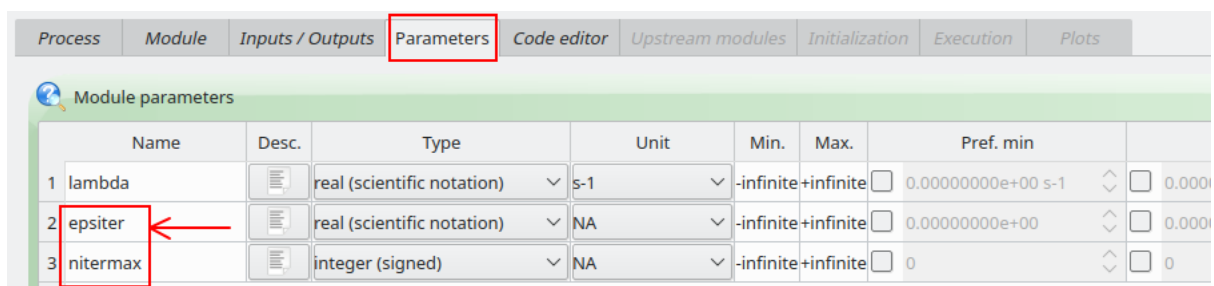

Figure 3: Definition of parameters *epsiter* and *nitermax* for *first_order_degradation* module (*Parameters* tab of *vsoil-modules* application)
It is the responsibility of the module developer to define and code in the compute section of the module (see below), the algorithm controlling the convergence of the iterations. So, the module should have a parameter defining the convergence criterion (parameter *epsiter* of module *first_order_degradation*, see figure 3).
number of iterations (parameter *nitermax* of module *first_order_degradation*, see figure 3): this offers the possibility to build a model composed of modules having their own (and potentially different) maximum number of iterations.
- If the value of *nitermax* (maximum number of iterations associated with module *first_order_degradation*, see figure 3 and second blue frame in figure 5) is greater than or equal to the value of *iterateWithMaxIterations* (maximum number of iterations common to all modules involved in a process of iterations between modules, see figure 4), then *iterateWithMaxIterations* will be the maximum number of possible iterations between modules *first_order_degradation* and *balance_batch_deg*; it means in this case that the value of *nitermax* is ignored.